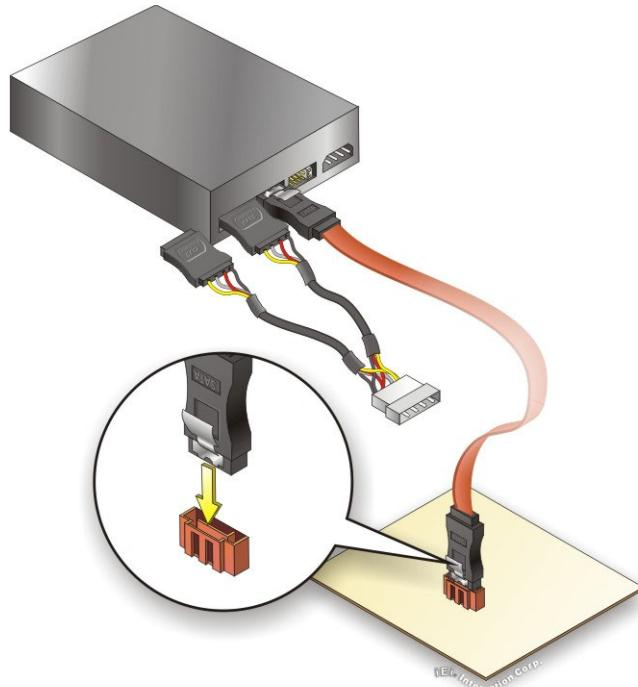

Figure 4-21: SATA Power Drive Connection
Step 3: Connect the cable to the SATA disk. Connect the connector on the other end of the cable to the connector at the back of the SATA drive. See **Figure 4-21**.
Step 4: Connect the SATA power cable (optional). Connect the SATA power connector to the back of the SATA drive. See **Figure 4-21**.